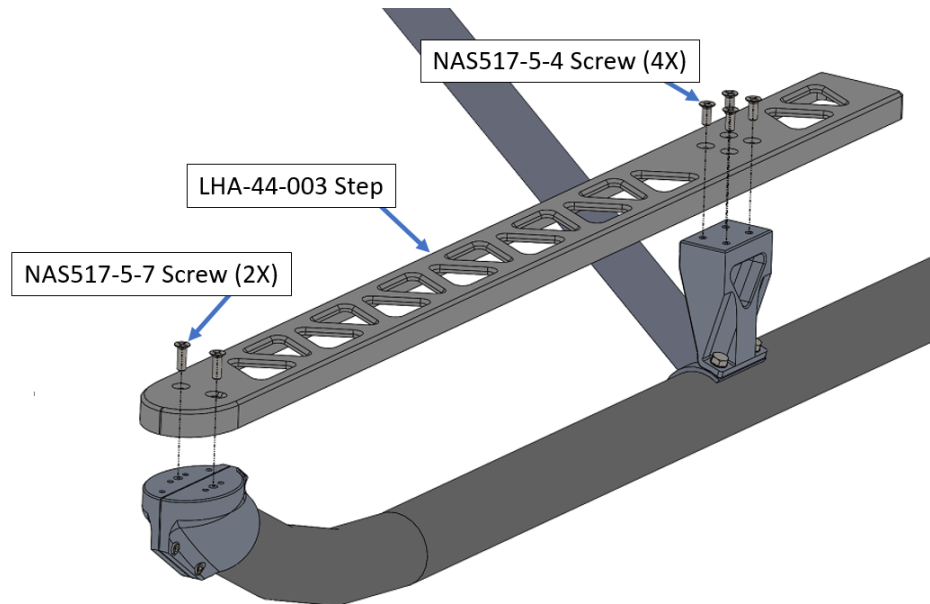

Figure 6. Installation of the LHA-44-003 Step onto the Forward and Aft Attachment Brackets
6. Attach the LHA-44-003 Step onto the Forward and Aft mounting brackets using the supplied NAS517-5-4 and NAS517-5-7 countersunk screws. Attach screws with Phillips Head Screwdriver. Install fasteners hand tight. Figure 6 shows the mounting locations on Skid Tube Step and unit as assembled.